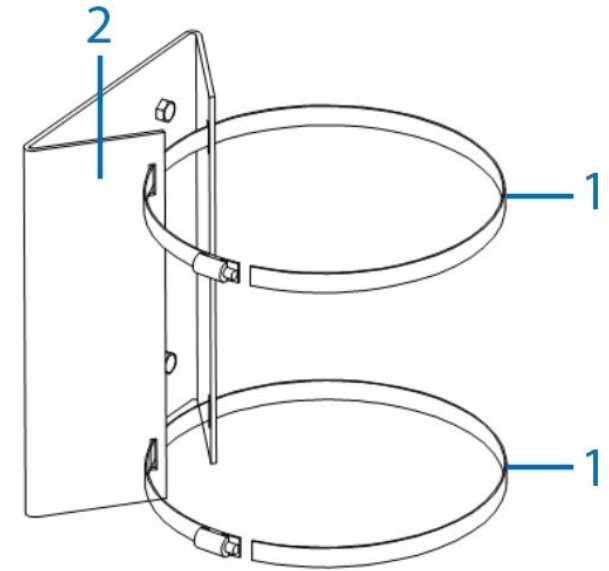

Figure 4
A. Thread the two metal straps (1) (Figure 4) through the four holes on the pole mount (2) (Figure 4).